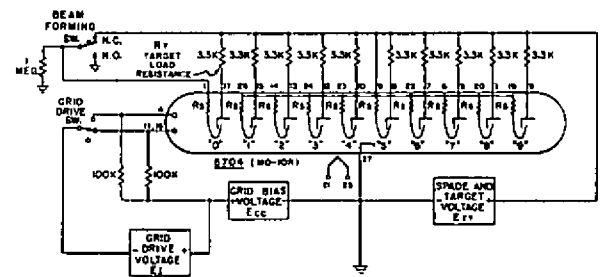

Figure 6
2. Under the specified test conditions in the test circuit, Figure 6, the tube will be clear and no output current will be produced, when all of the spades are at the spade source potential. As long as the spade source potential does not exceed the Firing Voltage (Note 4), a beam will not form spontaneously. Output current may be produced by forming a beam in the tube by lowering the potential of one spade to cathode potential. Once formed, the beam will not clear as long as the spade source voltage exceeds the specified minimum. With the potential of the switching grids at the specified grid bias voltage, the beam will not switch if the spade source voltage does not exceed the specified maximum.
5. The tube is a constant current device having pentode type output characteristics. For a fixed value of spade voltage, output current at a given target is constant over a wide range of target voltage; however, because of normal manufacturing tolerances, the amount of target current can vary from target to target. With the tube operating in the test circuit, Figure 6, and with the spade and target supply voltages fixed at 100 volts, the target and cathode current measured with the beam at each of the ten targets must be within the specified limits.